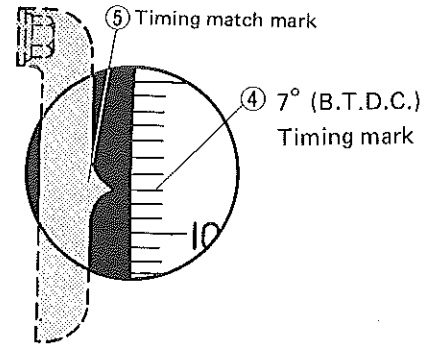

Fig. 9-23
With timing marks ④ ⑤ lined up as shown in Fig. 9-23, remove the cylinder head cover and check to be sure that No.1 cylinder rocker arms are not riding on cam lobes. If the arms are up, turn over crankshaft by one rotation (360°) clockwise (as viewed from crankshaft pulley side). This turning should cause the buzzer to sound off just when the marks come into alignment.
- 2) Bring timing mark ④ into alignment with mark ⑤, as shown in Fig. 9-23. Mark ④ represents the 7° crank angle.